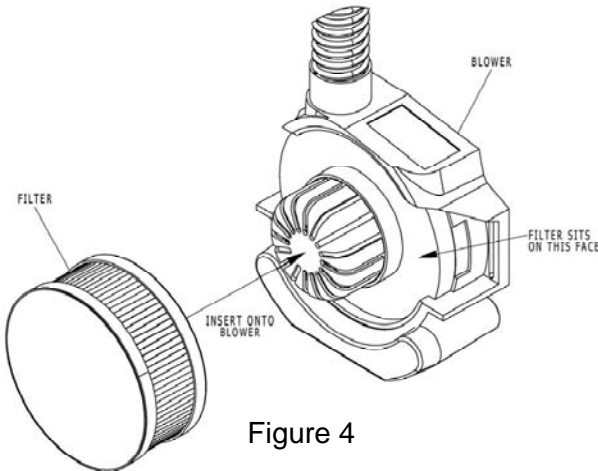

Figure 4
4. Install the Filter onto the Blower (fig. 4).